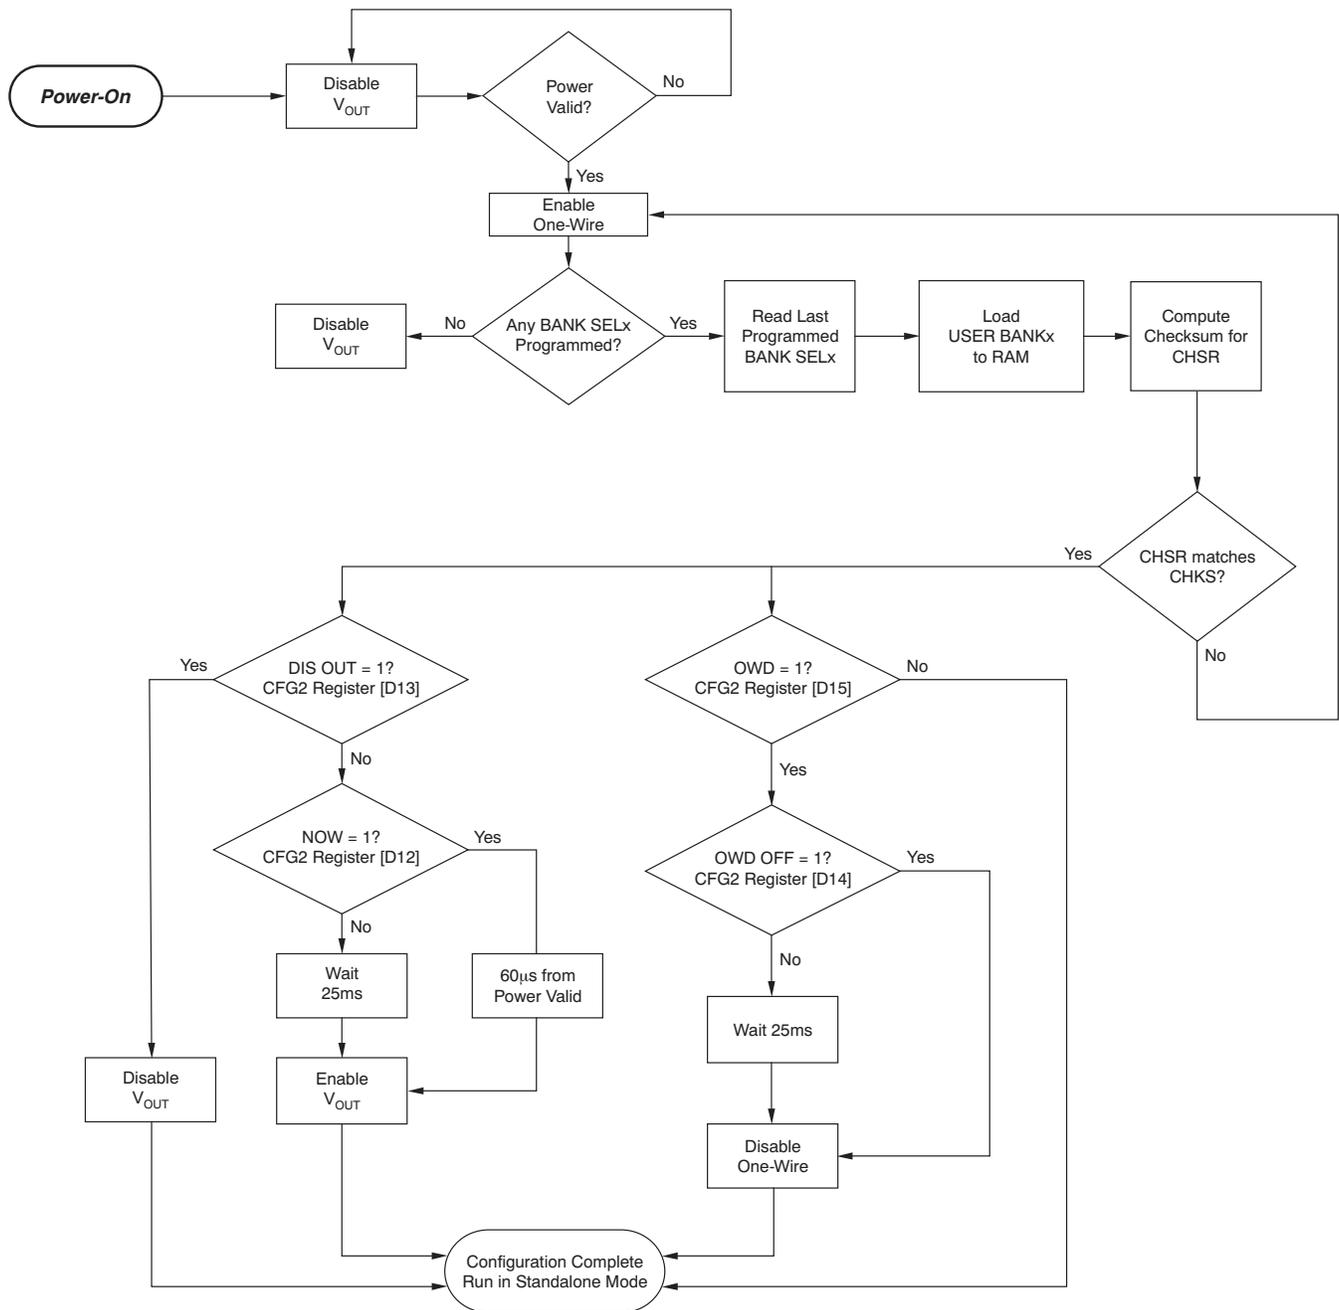

Figure 5-10. Standalone Mode Operation
If an OTP User Bank X is loaded with a valid checksum, there are two independent parallel process paths to determine the configuration of V_{OUT} and the One-Wire interface. Figure 5-10 details the Standalone Mode algorithm for how the PGA308 state machine operates in Standalone Mode.
(1) See Figure 5-10.